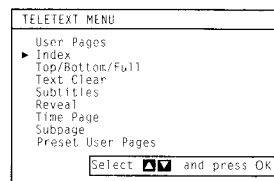

Fig. 36.
- 2 Using  $\Delta$ + or  $\nabla$ -, select the teletext function you want and press OK. (See Fig. 36)